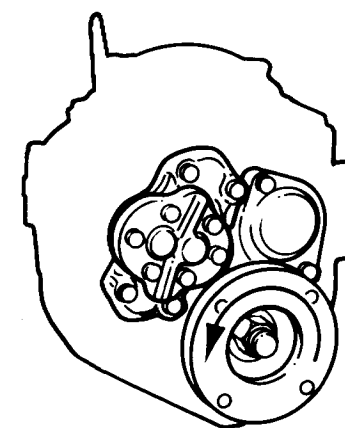

Fig. 4. Oil-pump mounting — clockwise engines
- Fig. 4. Oil pump mounting – clockwise engines